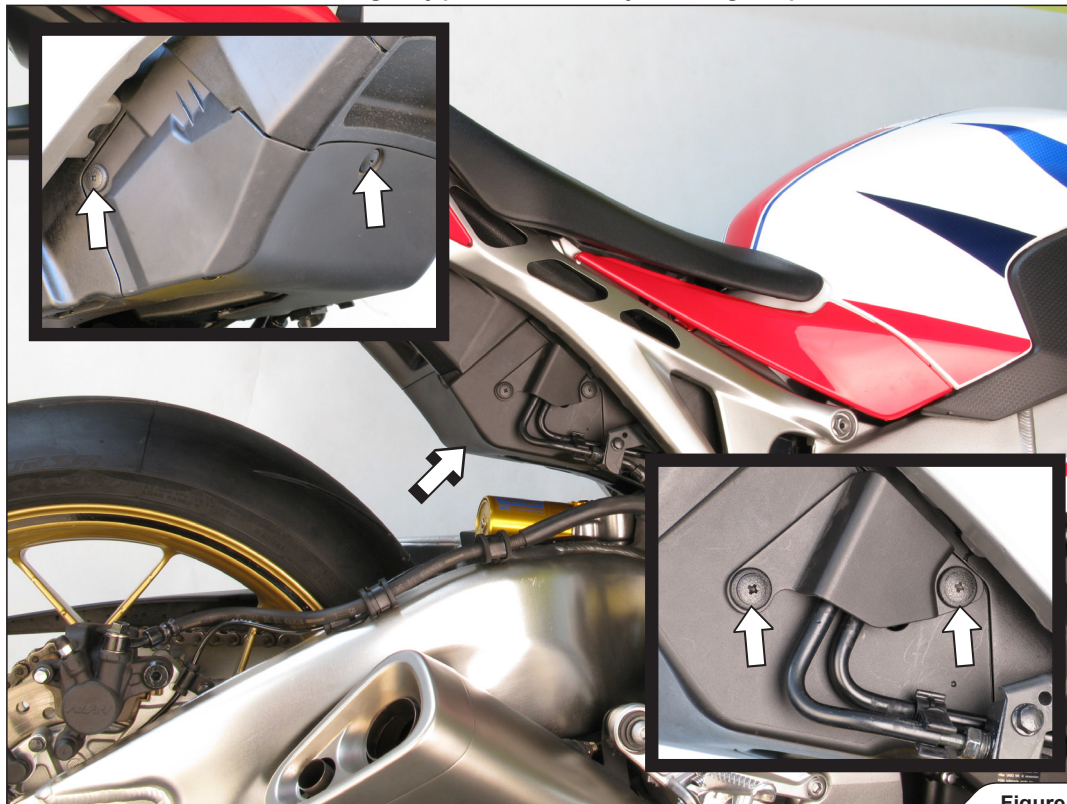

Figure 1
2. Undo the marked plastic fasteners and carefully remove the servo motor's cover (Figure 1).